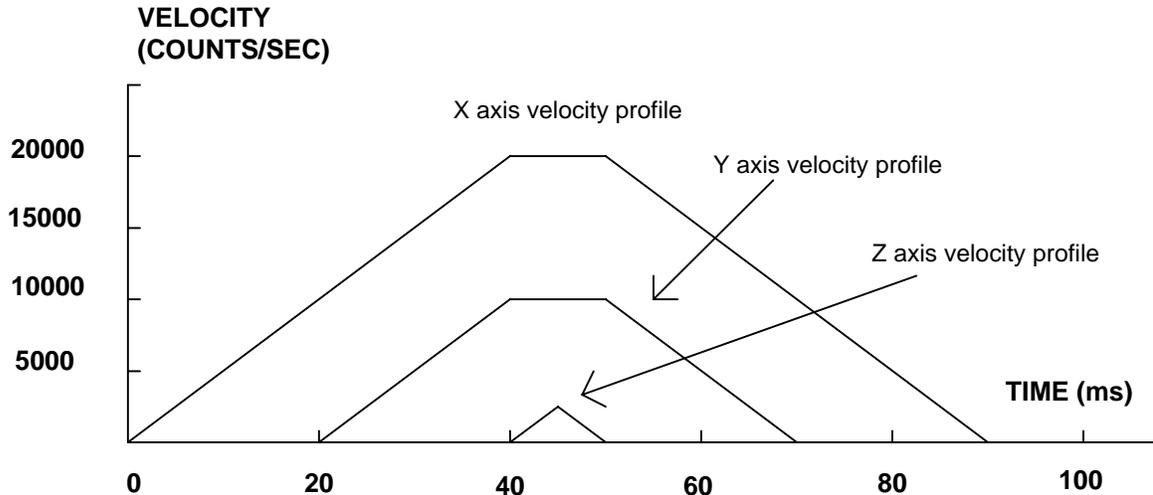

Figure 6.0 - Velocity Profiles of XYZ
This example will specify a relative position movement on X, Y and Z axes. The movement on each axis will be separated by 20 msec. Fig. 6.0 shows the velocity profiles for the X,Y and Z axis.
**Notes on figure 6.0:** The X and Y axis have a ‘trapezoidal’ velocity profile, while the Z axis has a ‘triangular’ velocity profile. The X and Y axes accelerate to the specified speed, move at this constant speed, and then decelerate such that the final position agrees with the command position, PR. The Z axis accelerates, but before the specified speed is achieved, must begin deceleration such that the axis will stop at the commanded position. All 3 axes have the same acceleration and deceleration rate, hence, the slope of the rising and falling edges of all 3 velocity profiles are the same.